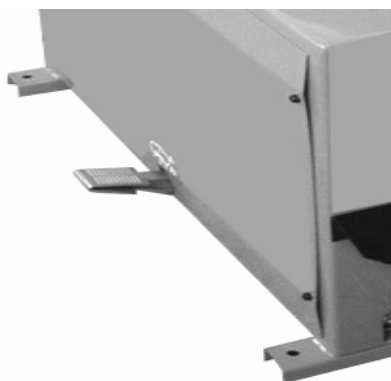

Fig 17
1. There is a pedal on the side of the machine. This pedal has two positions. The first position is for the inflation for the tire with tube. Step the pedal lightly for several times during the inflation. Make sure the reading on the gauge does not exceed the manufacturer's limit. (Fig.17)